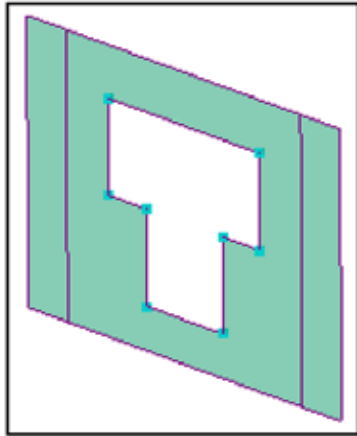

Figure 44: Hole by nodes
6. Click **Apply**, notice that the hole is created, as shown in Figure 44.